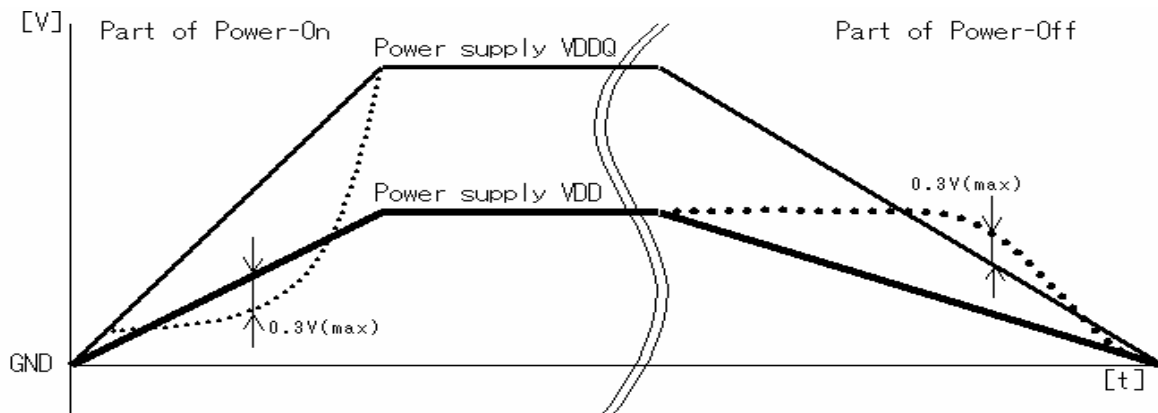

Fig.H1
- (1) Please turn on the power supply of I/O, RTC, PLL1/2 and CPG to the same timing as a power supply VDDQ.
- (2) After turning on a power supply to VDDQ or simultaneously, the input of a signal line (RESET, MRESET, MD0-MD10, external clock, and etc) must be input. If the signal lines are entered first, the LSI may be damaged.
- (3) It recommends that a power supply to VDDQ is in advance, and a power supply to VDD is behind.
- (4) In addition to the above (1), (2), (3) and following (i)(ii), please follow "3. The ratings for power-on and power-off".
- (i) In the case of this LSI simple substance, the power supply sequence of a power supply to VDDQ and VDD does not have time restrictions. Please refer to Figure H {Fig. H1}. In addition, it recommends performing a power-on procedure at the shortest possible time.
(i) In the case of this LSI simple substance, the power supply sequence of a power supply to VDDQ and VDD does not have time restrictions. Please refer to Figure H {Fig. H1}. In addition, it recommends performing a power off at the shortest possible time.